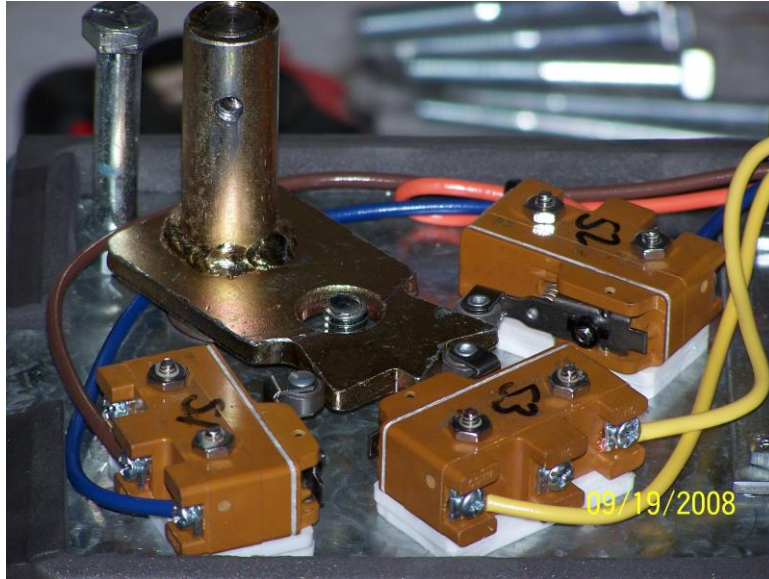

Figure 11
10. Tighten the cable clamp on the tower box. Make sure that the cam is in the center or neutral position (Figure 11). Wire the tower box with the supplied 7 conductor cable and carefully read the wiring diagram to connect to the end tower box.